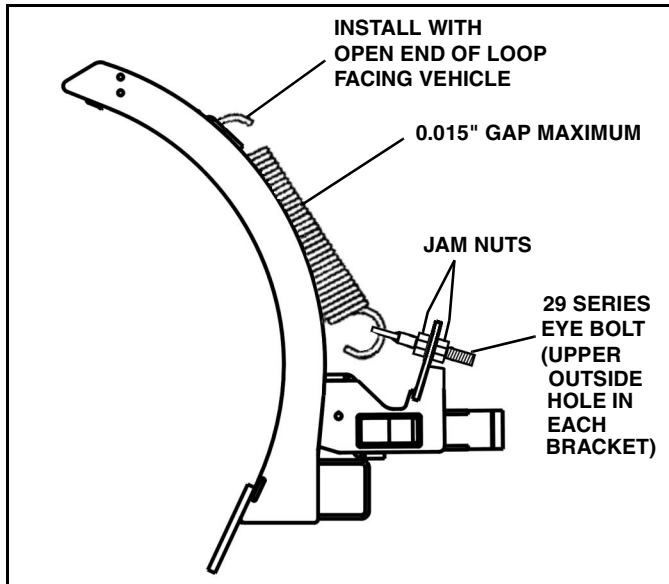
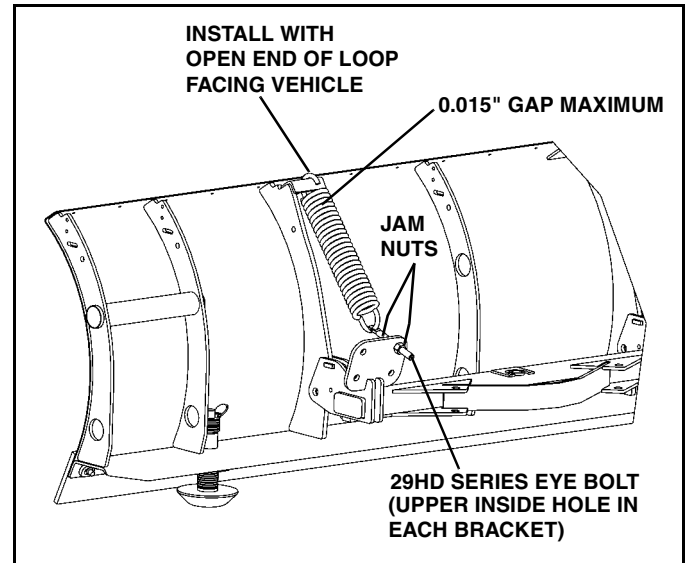
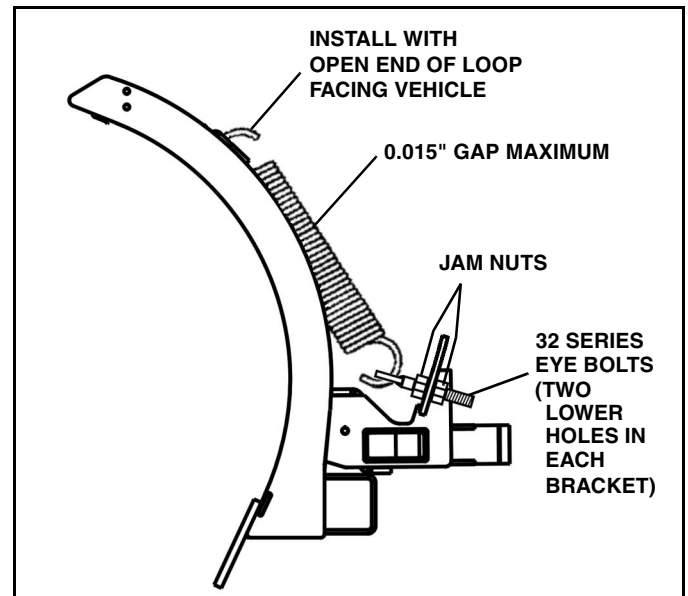

Figure 1-7a (29 Series)
Figure 1-7b (29 HD Series)
Figure 1-7c (32 Series)
7. Hook springs onto blade with open end of loop facing up. (See Figure 1-7a, Figure 1-7b and Figure 1-7c)
8a. **29 and 29HD SERIES BLADES:** Hook other end of spring onto eyebolt. Insert one eyebolt on each side of the blade into the single upper hole on the swing frame spring bracket. Use a jam nut on either side of bracket to secure. (See Figure 1-7a and Figure 1-7b)
8b. **32 SERIES BLADE ONLY:** Hook other end of spring onto eyebolt. Insert two eyebolts on each side of the blade into the two lower holes on the swing frame spring bracket. Use a jam nut on either side of bracket to secure. (See Figure 1-7c).